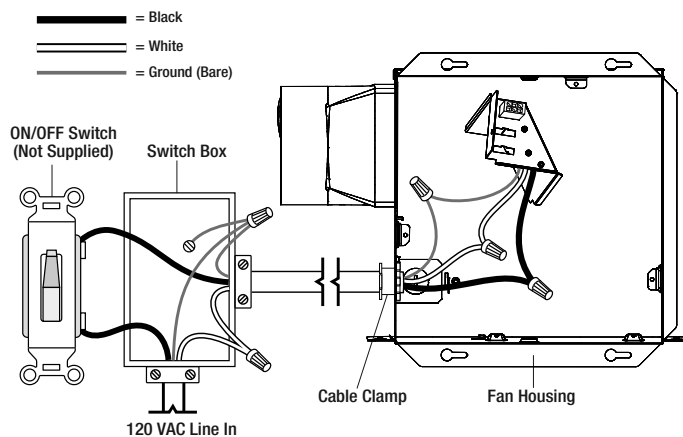

Fig. 10
- Use UL approved connectors to connect the fan wires to your electrical supply cable as shown in figure 10.